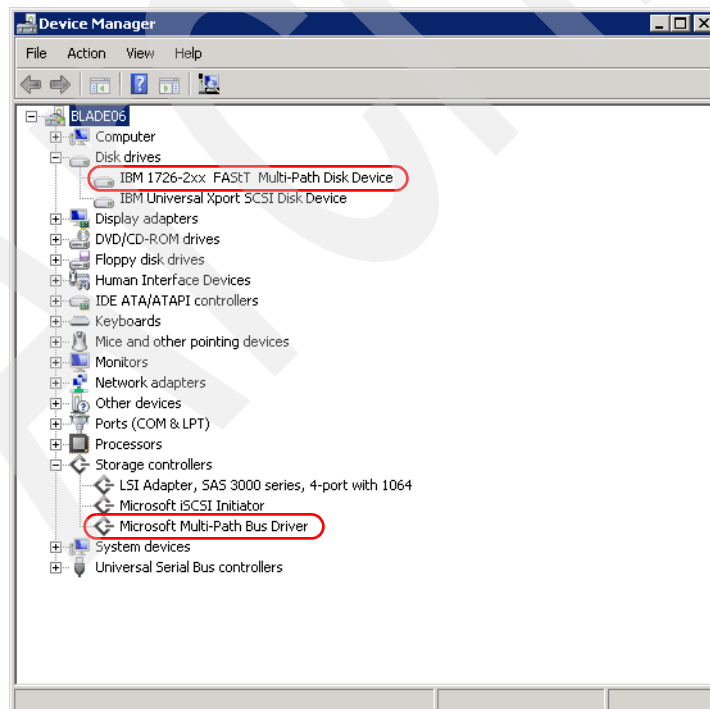

Figure 20-47 Confirming Multi-Path driver
10. In the Windows Device Manager, we can confirm the IBM 1726-2xx Multi-Path disk device as well as the Multi-Path Bus Driver, as shown in Figure 20-47.